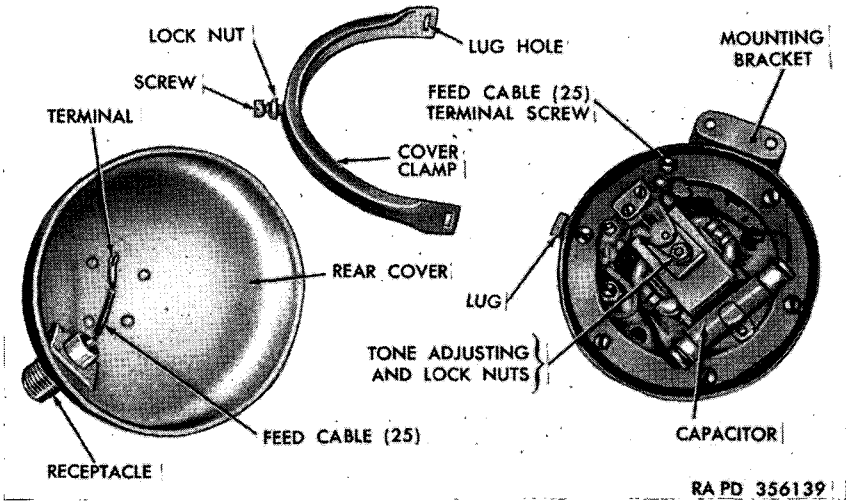

Figure 214. Horn—cover removed.
c. **ADJUSTMENT** (fig. 214). Loosen lock nut on rear cover clamp screw and loosen screw. Remove cover clamp and twist cover out of the way so that tone-adjusting nut and lock nut can be loosened. Press horn switch (fig. 21) and turn tone-adjusting nut until satisfactory tone is attained. Then release switch and tighten lock nut. Place cover in position and install cover clamp. Tighten clamp screw and lock in position with lock nut.